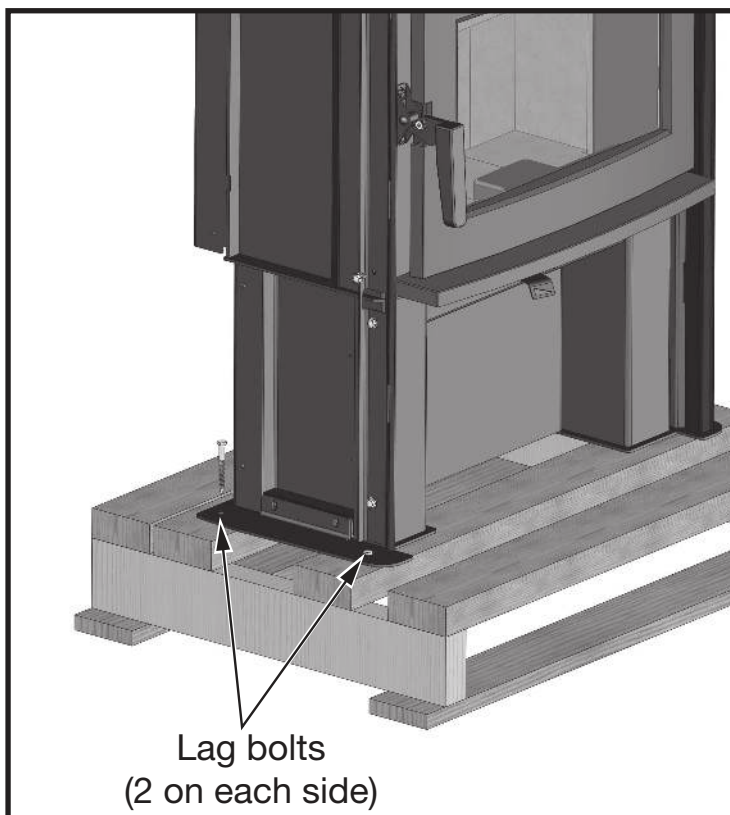

Figure 2: NEO 1.2 pallet removal.
3. Using a 7/16"(12mm) wrench, remove lag bolts that secure hold down brackets to bottom pallet (Figure 2).